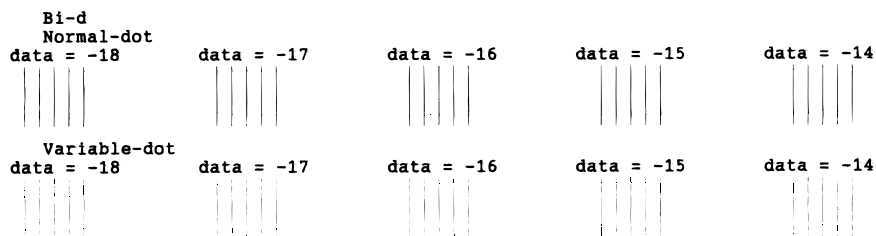

Figure 5-10. Bi-D Adjustment Pattern Sample
9. The sample pattern is printed as shown Figure 5-10. Select the value the most closely aligned vertical line. (In case of Figure 5-10, data No.-16 is most closely aligned at normal dot)
14. Set the normal dot and vertical dot values according to the value on step 9. (In case of Figure 5-10, Set to the value to -16 at normal dot.)